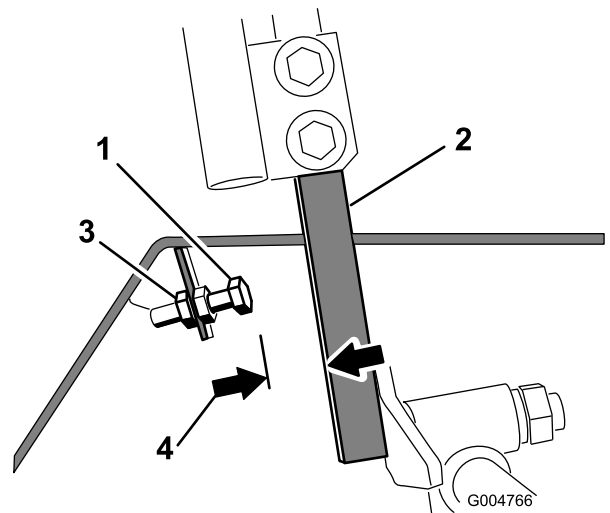

Figure 89
4. Loosen the jam nut on the stop bolt for a control lever (Figure 89).